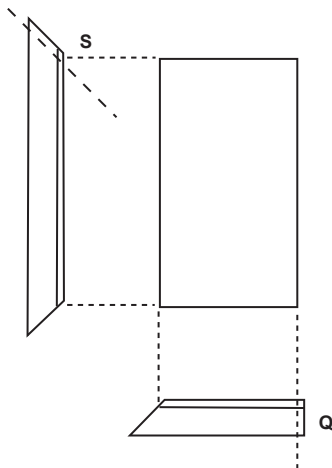

Figure 4b
4. Trim the 14" side moulding to fit the false tread length **S**. (See Figure 4b.)